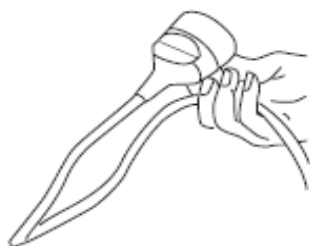

Fig. 8
4. Double the extension cord back about a foot from the end, hook the loop over the cord strainer (4) on the bottom side of the motor unit, and gently tug on the cord to ensure that it is firmly secured. (Fig.8&9)